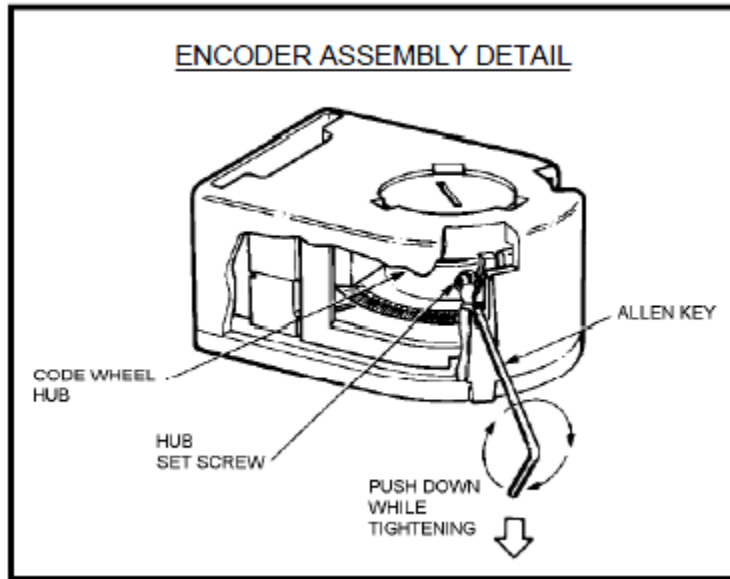

Figure S-7: Setting the Encoder
4. Push the Allen Key into the body of the encoder to ensure that it is properly seated into the code wheel hub set screw (Figure S-7). Apply a downward force on the end of the Allen Key. This sets the code wheel gap by levering the code wheel hub to its upper position. While continuing to apply a downward force, rotate the Allen Key to the clockwise direction until the hub set screw is tight against the idler shaft. Remove the Allen Key by pulling it straight out of the encoder body.